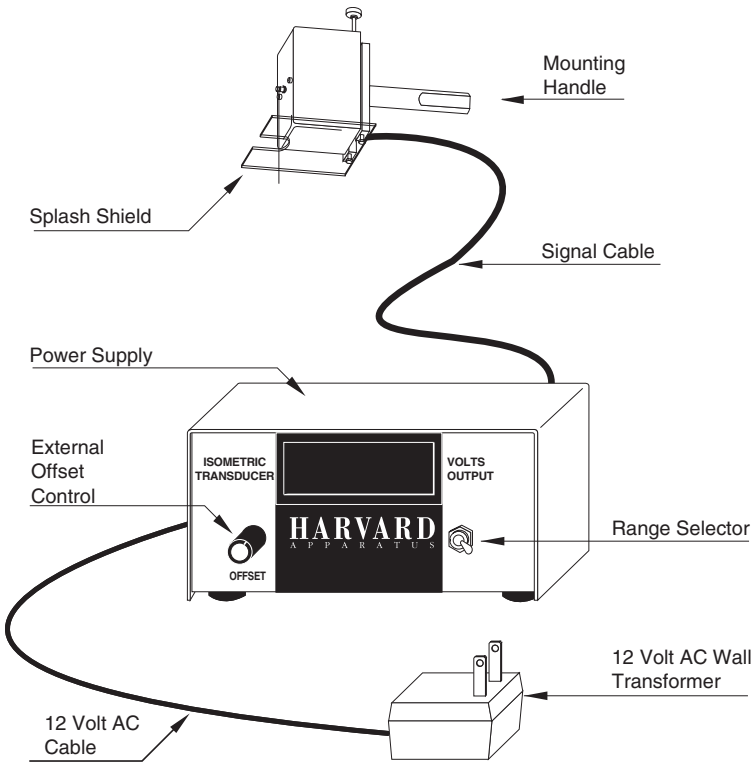

Figure 2. Diagram of Isometric Transducer
- a) The entire transducer is powered by a 12 volt AC wall transformer. (See Fig. 2)
The range selector switch has two positions: 50 gram and 500 gram (See Fig. 2)
The OFFSET control enables the user to set a zero output voltage for any pre-load value. (See Fig. 2) It is essentially a "Tare Control" device since it balances out static loads such as the weight of the muscle preparation prior to contraction.